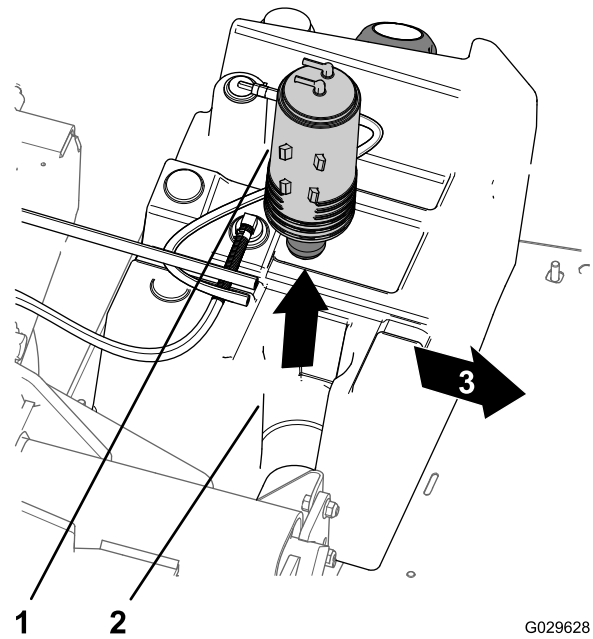

Figure 44
- Lift the carbon canister from the carbon-canister mount in the fuel tank (Figure 44).
7. Insert the new carbon canister into the carbon-canister mount of the fuel tank with the purge and fuel tank fittings aligned rearward (Figure 44).